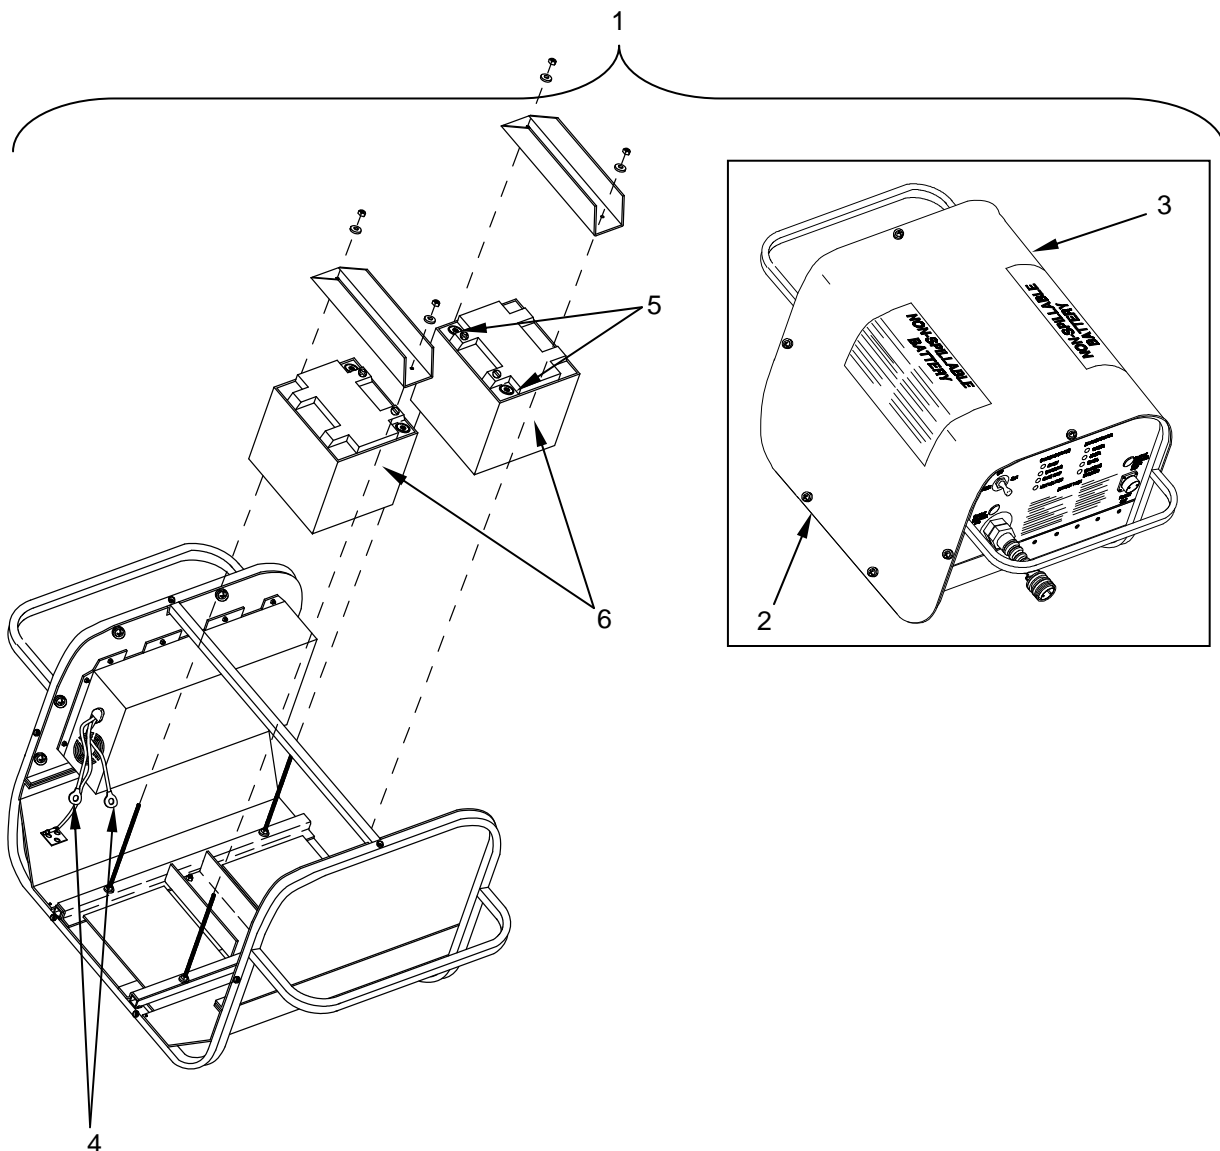

Figure 1. Test the Batteries.
7. Repeat steps 5 and 6 with the remaining battery (Figure 1, Item 6).
8. Connect the power leads (Figure 1, Item 4) to the battery terminals (Figure 1, Item 5) as tagged.
9. If the batteries (Figure 1, Item 6) pass the voltage test, install the battery pack cover (Figure 1, Item 3) and secure with the retained fasteners (Figure 1, Item 2).